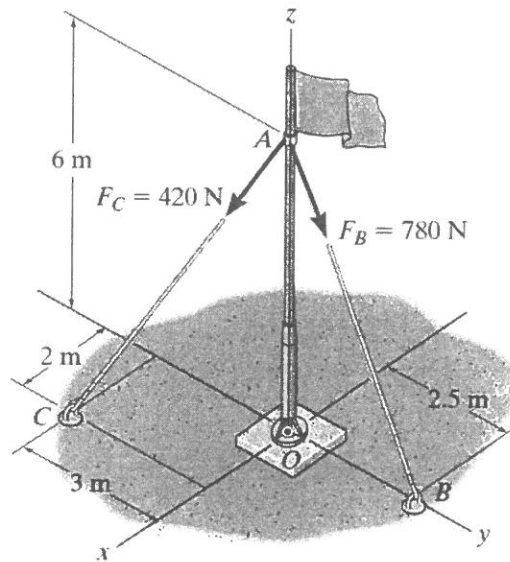

Figure Q2 (a)
- (b) Based on Figure Q2 (b), the 70-N force acts on the end of the pipe at B.